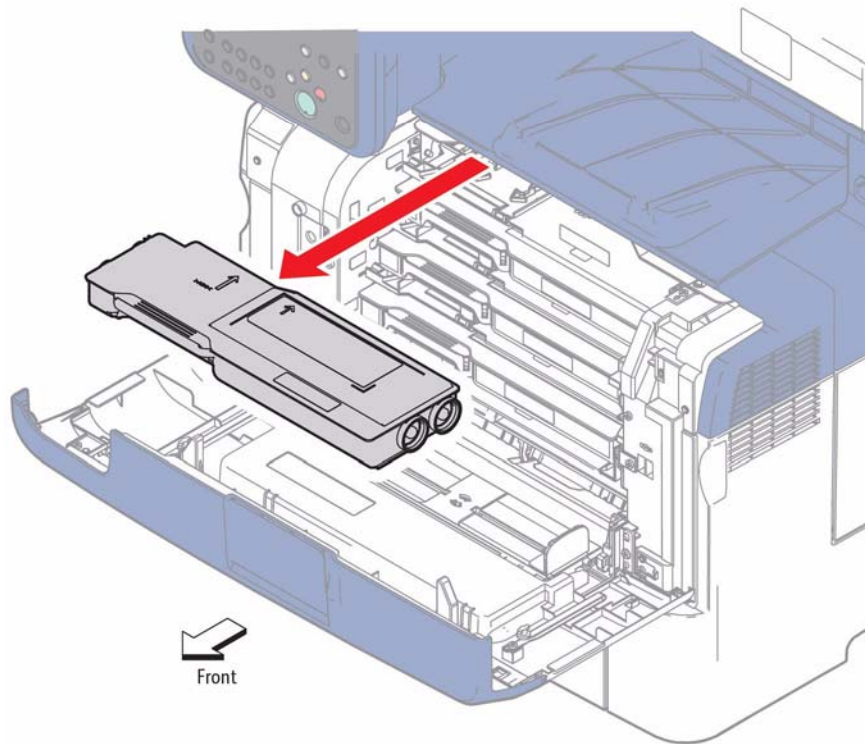

Figure 1 Remove Toner Cartridge
2. Pull out the Toner Cartridge Y to the front by the handle as shown in Figure 1.